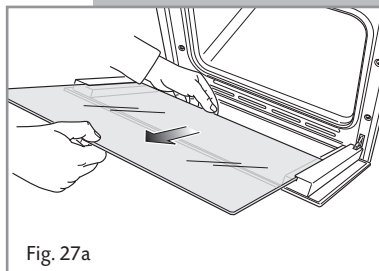

Fig. 27a
- Gently pull out the inner pane of glass (Fig. 27a).